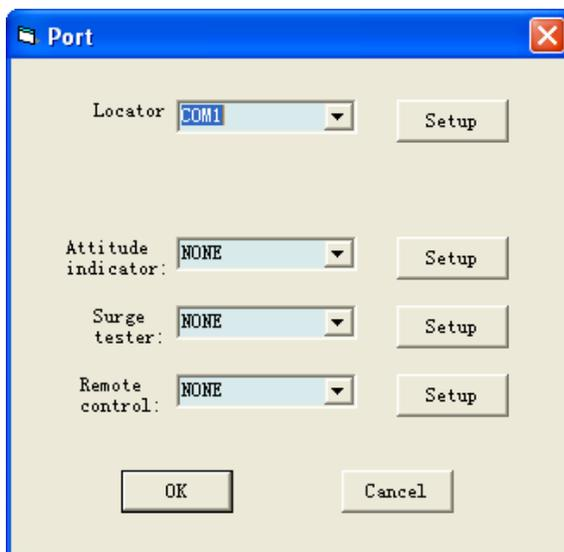

Figure 2-18
2. Port setup: enter **“Setup”** -> **“Port”**. connect GPS with COM1 and set port number as COM1 and baud rate in survey interface, as indicated in Figure 2-18: